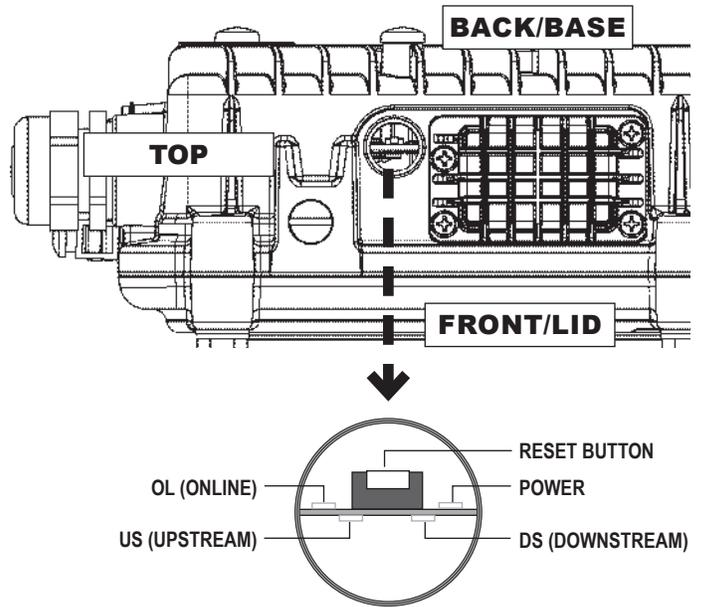

Fig. 2-11, Inspection Port Location and System LED detail
1. Use a torque wrench with 1/2" (13mm) socket to remove the inspection port cover and observe the system LEDs (See Fig. 2-11).
2. After applying power, the Power LED will light, followed by the DS (Downstream) LED, followed by the US (Upstream) LED and finally the OL (Online) LED. The indicators (all Green, on solid) should all be illuminated. (See Fig. 2-11)